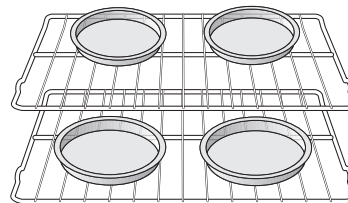
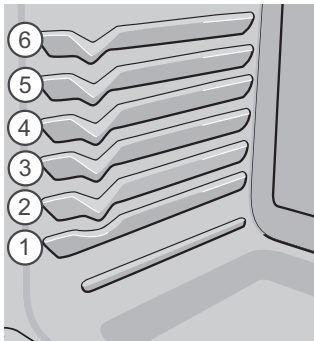

Figure 31: Convection baking on multiple levels/racks
Figure 32: Oven rack positions
- For batter and dough-based baked goods such as cakes, pastries, and breads, use the convection bake function for best results. Place the pans as shown in Figure 31.
- For best results when baking cookies and cakes using two oven racks, place racks in positions 2 and 5 (Figure 32) and place pans as shown in Figure 31. Use flat rack in position 5 and glide rack in position 2.
- When baking using two oven racks, position bakeware as shown in Figure 31. Allow at least 2 inches (5 cm) of space between bakeware for proper air circulation.